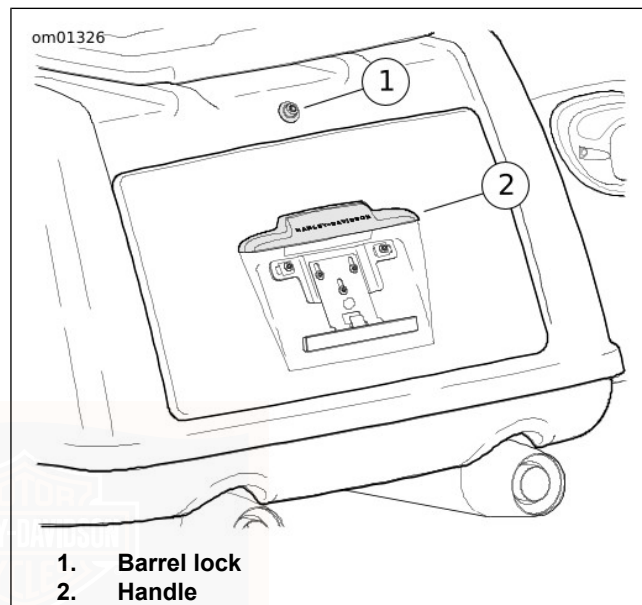

Figure 32. Trunk
2. See Figure 32. Push in the barrel lock to unlatch door. Pull handle to open trunk door.